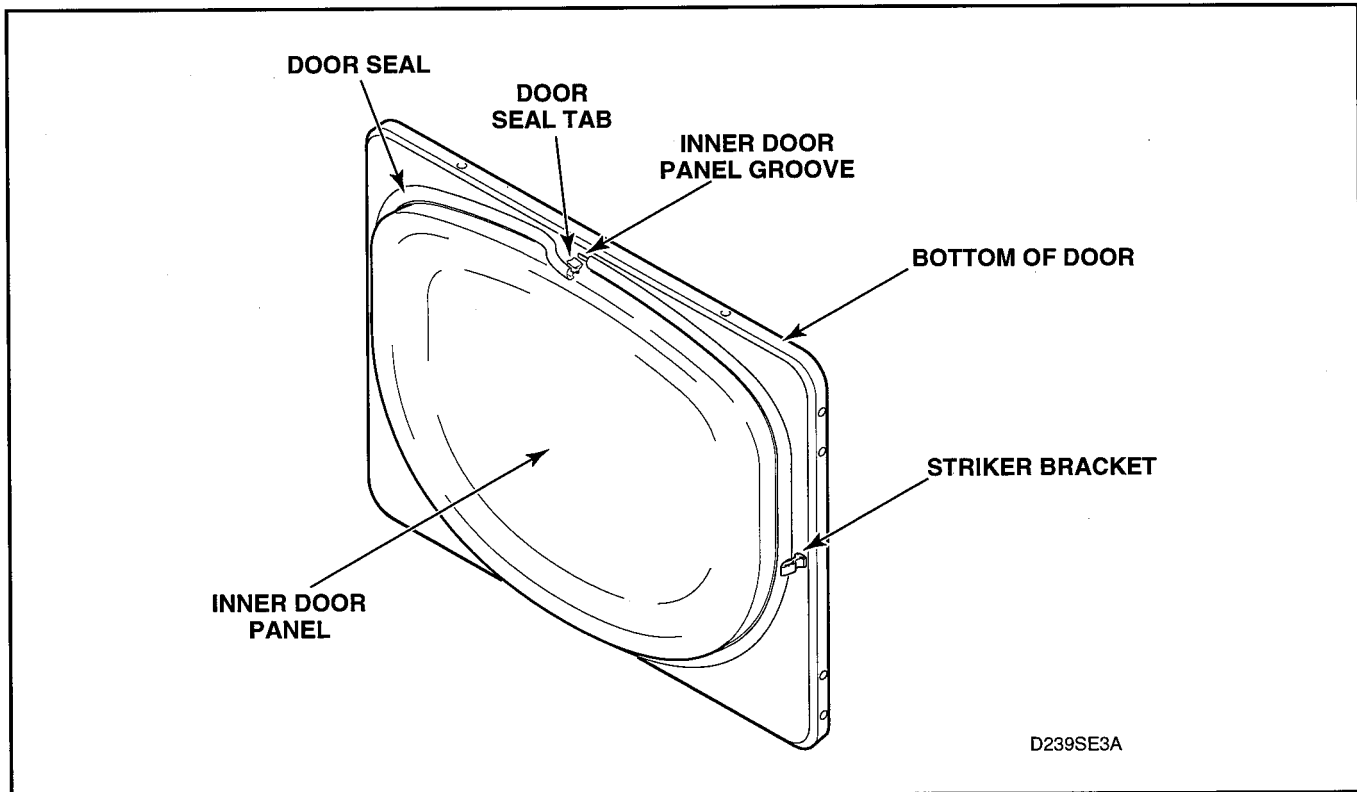

Figure 5-5
### 10. DOOR STRIKE (Figure 5-5)
### 11. DOOR SEAL (Figure 5-5)
- Grasp either end of door seal at bottom of door and remove seal from tabs on inner door panel by gently pulling on the seal. See figure 5-5.
**NOTE:** When replacing seal, be sure seal is not stretched or distorted. The groove in the seal should be installed on each tab of the inner door panel, as in figure 5-5. The split in the seal should be at the bottom of the door.